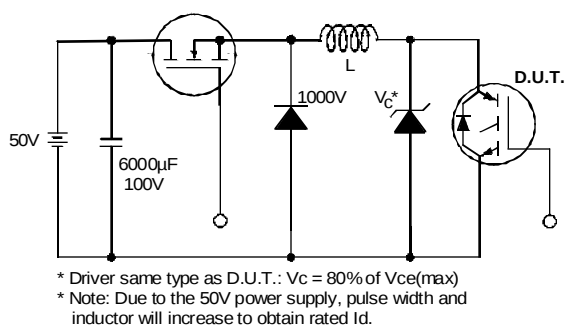

Fig. 19 - Clamped Inductive Load Test Circuit
② $V_{CC}=80\%(V_{CES}), V_{GE}=20V, L=10\mu H, R_G = 10\Omega, (\text{ See fig. 19 })$
③ Pulse width $\leq 80\mu s$; duty factor $\leq 0.1\%$.
④ Pulse width 5.0 μs , single shot.